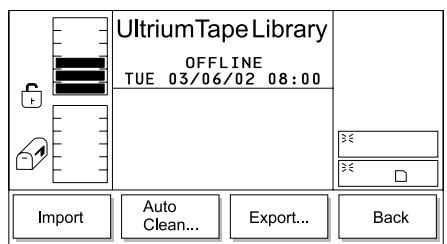

Figure 181. I/O Station Submenu
2. Press the button below the **I/O Station** softkey. The I/O Station Submenu displays (see Figure 181).
- | 8. To return to the I/O Station Submenu (see Figure 181 on page 152), press the